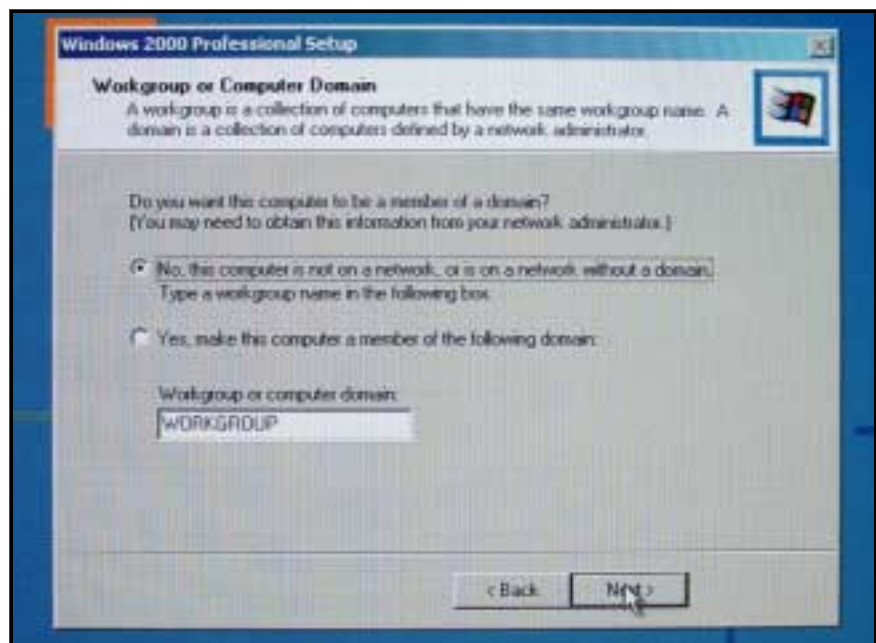

Figure 8-32 Workgroup/Domain screen
- 24) At "Workgroup or Domain" screen, (see Figure 8-32) set up this computer as specified by Hospital IT Administrator, then click *Next*.